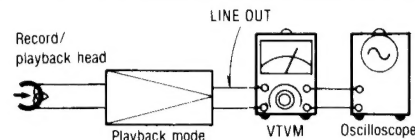

Fig. 4
1. Make connections as shown in fig. 4.